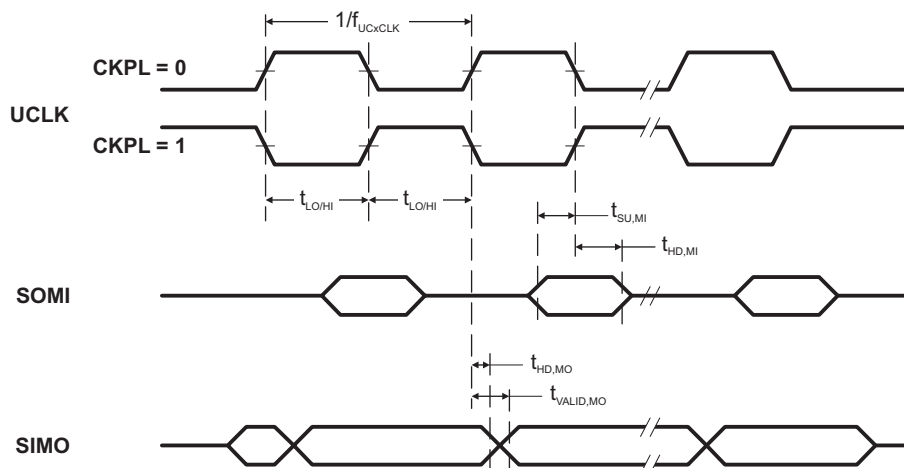

Figure 11. SPI Master Mode, CKPH = 0
(see Figure 11 and)
(2) Specifies the time to drive the next valid data to the SIMO output after the output changing UCLK clock edge. See the timing diagrams in Figure 11 and .
(3) Specifies how long data on the SIMO output is valid after the output changing UCLK clock edge. Negative values indicate that the data on the SIMO output can become invalid before the output changing clock edge observed on UCLK. See the timing diagrams in Figure 11 and .